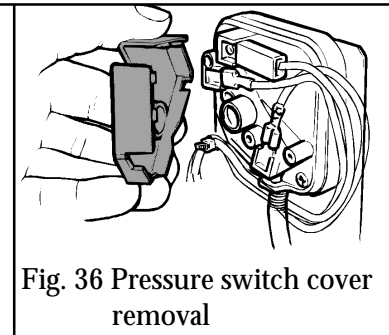

Fig. 36 Pressure switch cover removal
13.10.4 Remove the pressure switch cover (figure 36). Disconnect the three leads (Yellow, orange & white) from the air pressure switch.
13.11.3 Remove the pressure switch cover (figure 36). Disconnect the three leads (Yellow, orange & white) from the air pressure switch.